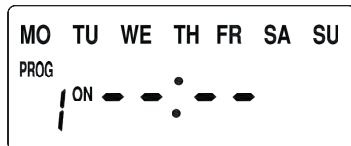

Fig. 1
1. Press the MODE key until **PROG 1 ON** displays and flashes. The program 1 ON mode is shown in Fig. 1 without any setting.